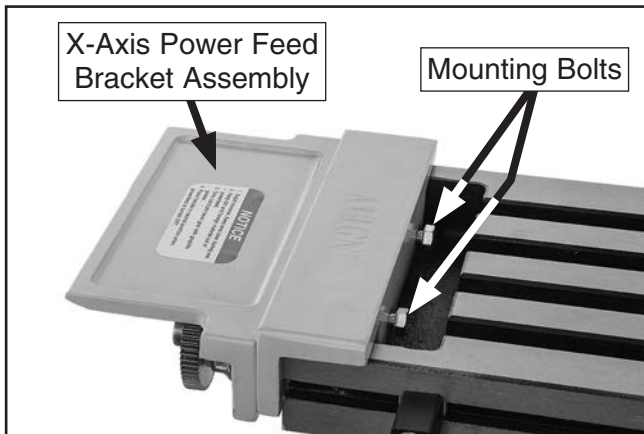

Figure 21. X-axis power feed bracket assembly mounted to table.
7. Install X-axis power feed bracket assembly onto left end of table, then tighten pre-installed mounting bolts (see **Figure 21**).